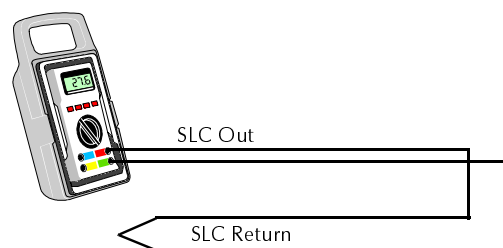

Figure 16 Measuring Resistance for a Four-Wire SLC
3. Measure the resistance as shown in Figure 16.